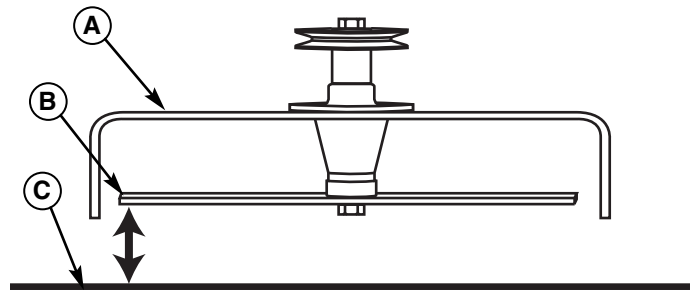

Figure 50. Measure Blade Tips to Ground
5. Measure the distance between the tips of the outside blades and the ground (Figures 50 & 51). If there is more than 1/8" (3mm) difference between the measurements on each side, proceed to step 6. If the difference is 1/8" (3mm) or less, proceed to Front To Back Leveling.